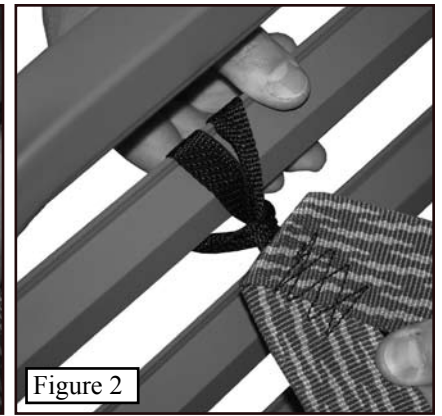

Figure 2
**Step 1.** Place the looped end on the 2" wide strap around the middle of the first platform rung from the front of the stand as shown in *Figure 2*.